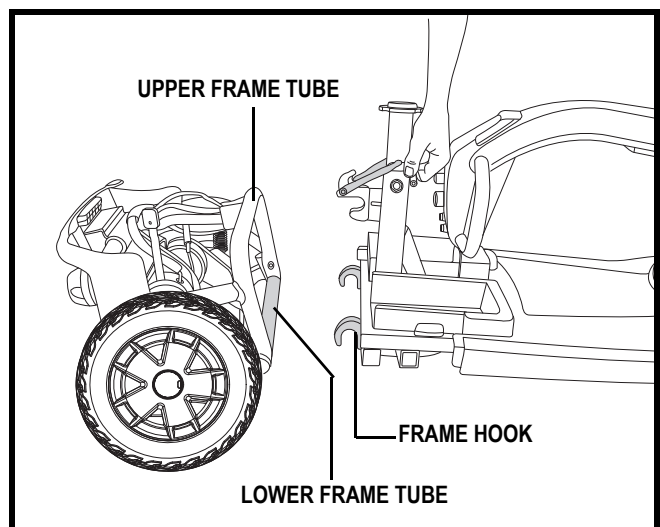

Figure 24. Frame Separation
NOTE: Stabilize the rear section with your free hand by holding onto the upper frame tube. See figure 24.
3. Slowly separate the two sections. See figure 24.
1. Position the front and rear sections of your scooter as shown in figure 24.